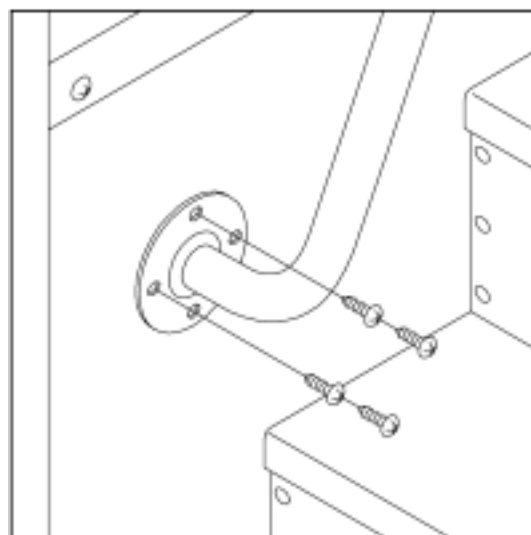

Figure 3—Handrail Assembly
6. Remove lower screws from handrail assembly at stepwell and barrier. **Figure 3—Handrail Assembly.**